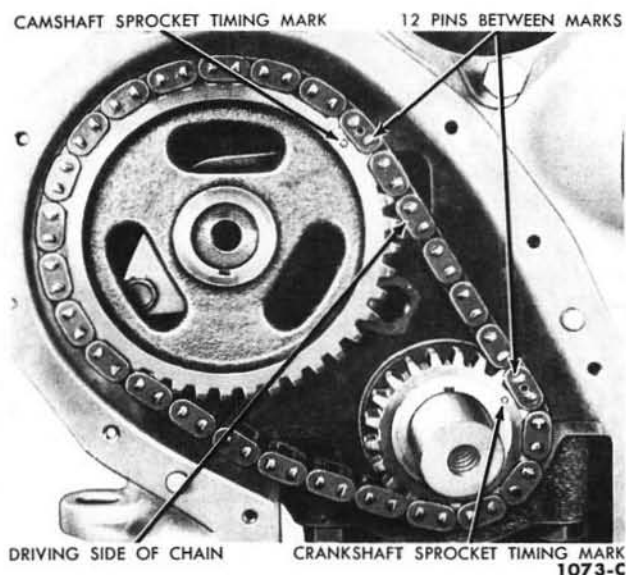

FIG. 24—Aligning Timing Marks
2. Remove the crankshaft front oil slinger. Crank the engine until the timing marks are positioned as shown in Fig. 24. Remove the camshaft sprocket retaining bolt and washer.
2. Position the sprockets and timing chain on the camshaft and crankshaft. Be sure the timing marks on the sprockets and chain are positioned as shown in Fig. 24. There are 12 timing chain link pins between the timing marks on the sprockets.
4. Crank the engine until the timing marks on the sprocket and chains are positioned as shown in Fig. 24. Scribe a line on the distributor housing and cylinder block to mark the position of the rotor and distributor housing for installation, then remove the distributor.